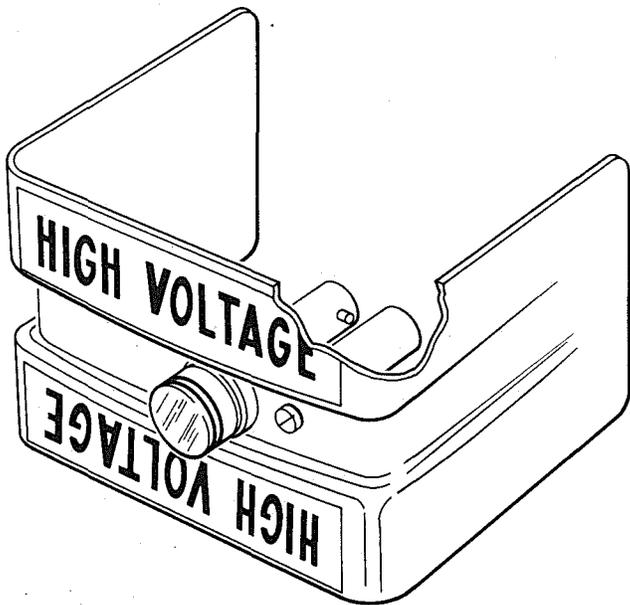

Fig. 9—C Warning Marker
- (b) **B-Type Frames Equipped with 300-Type Connectors:** Install a C warning marker, illustrated in Fig. 9, on the pair.